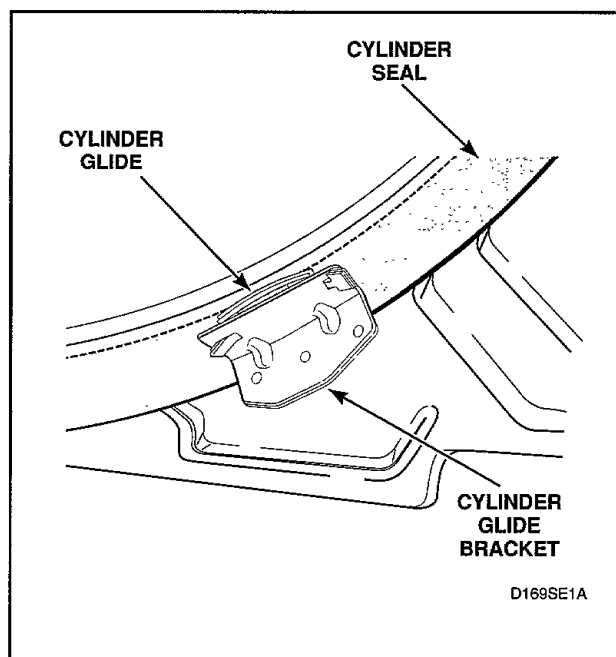

Figure 42
NOTE: When reassembling the front bulkhead to the cabinet, hold glides in position with finger tips on the edges of glides. Once bulkhead is in place, inspect the glide position with a mirror to insure the glides are aligned with the cylinder, making sure the tabs are visible, *Figure 42*.
- g. **Cylinder glides and pads** (*Figure 42*)
(1) Unsnap glides from each glide bracket and remove glides and pads.
- h. **Front cylinder seal** (*Figure 42*)
NOTE: When reassembling the front bulkhead to the cabinet, hold glides in position with finger tips on the edges of glides. Once bulkhead is in place, inspect the glide position with a mirror to ensure the glides are aligned with the cylinder, making sure the tabs are visible, *Figure 42*.